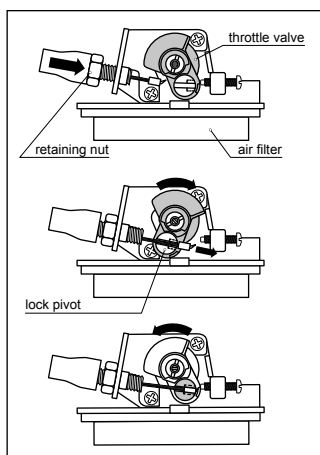

fig. 6
- Secure the cable to the engine and place the end of the cable in the throttle valve connector (Fig 6).